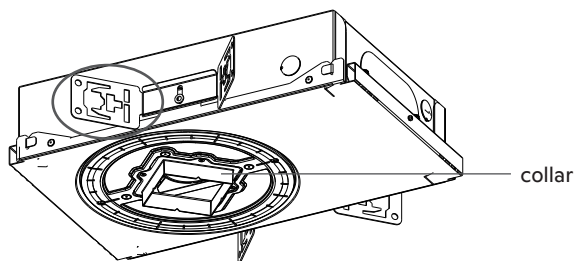

fig. 8
- a. Use bar stock or C-channel (not provided) to mount the D2 in the ceiling. The supports should go through the holes in the butterfly brackets and can be used to suspend the D2 without screws (see fig. 8).